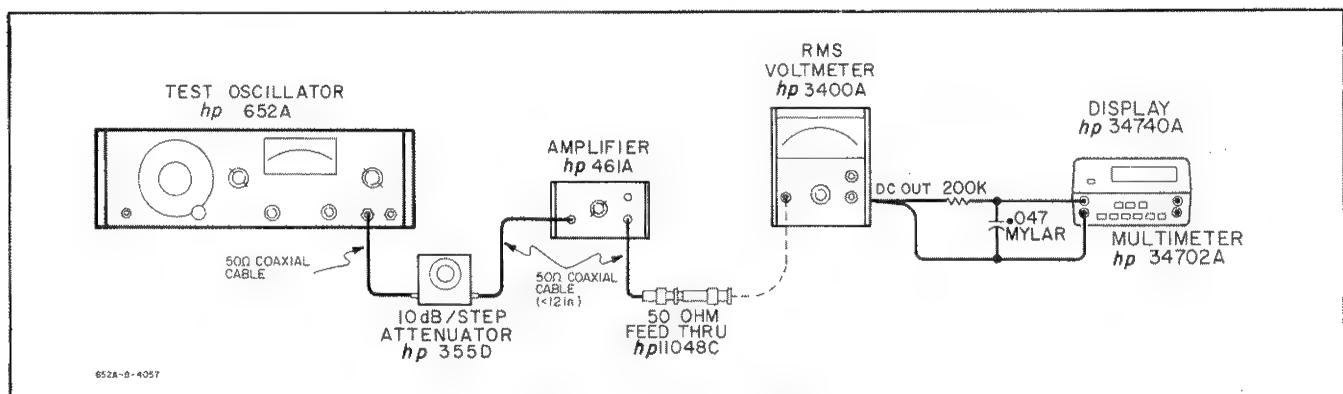

Figure 5-4. Attenuator Test.
- a. Connect external attenuator, amplifier, ac voltmeter and digital voltmeter to 652A as shown in Figure 5-4. Use an attenuator with known accuracy.